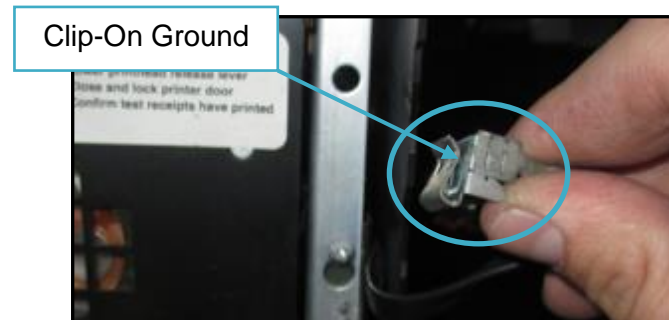

Fig. 1.19 – Remove clip-on ground wire
- 1) Remove the clip-on ground terminal. (Fig 1.19)